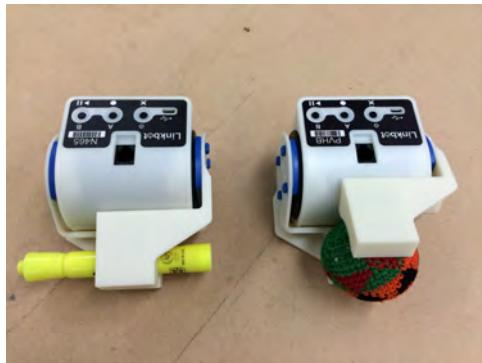

Figure 15.10: A Linkbot-I picks up a pen and hackysack.
5. Run the program `gripper.ch` using a Linkbot-L to pick up a highlighter pen and hackysack as shown in Figure 15.10. The gripper is opened by 90 degrees first, joint 2 rotates by 90 degrees, then close the gripper. Write a program `gripper2.ch` using a Linkbot-I to open the gripper by 90 degrees first, then close the gripper.
- (a) Run the program `opengripper.ch` to open and close a gripper as shown in Figure 15.10 to grab an object.